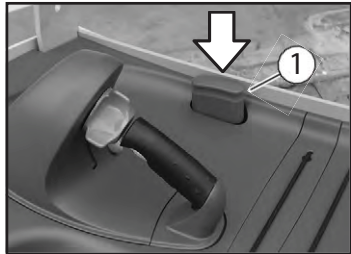

Fig. 13 Dashboard panel
1. Press the Emergency Disconnect (Fig. 13, ①.)
2. Pull the emergency disconnect (Fig. 13, ①) up.